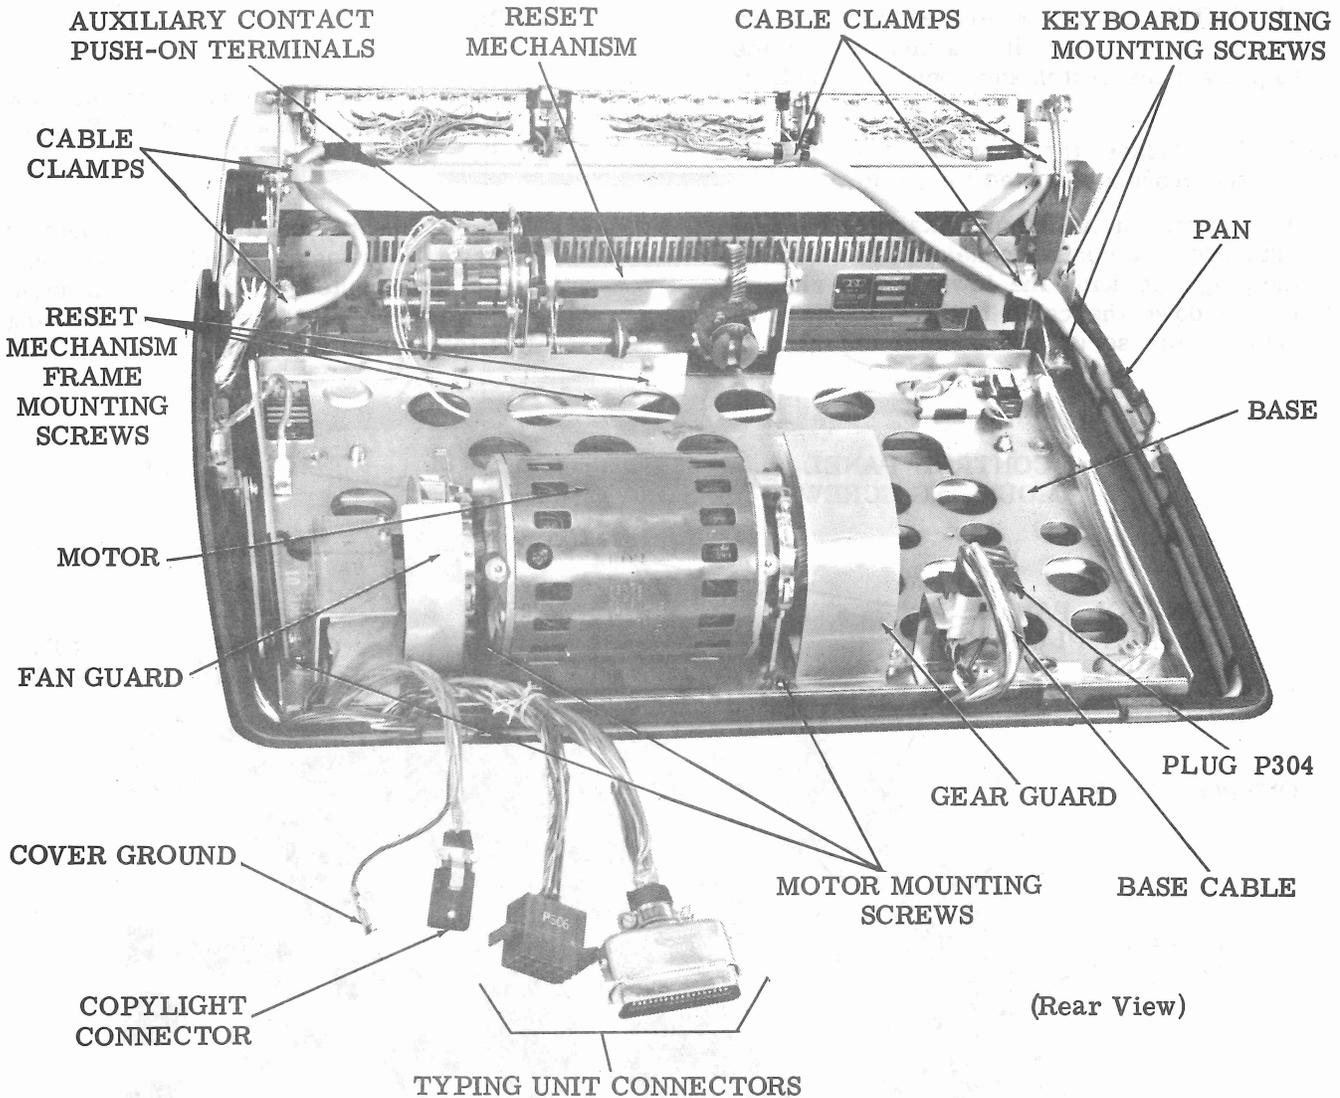

Figure 7 - Keyboard, Control Panel, Reset Mechanism, and Motor Unit
2.07 To remove the motor unit from the base, proceed as follows (Figure 7).
2.09 To remove the intermediate gear assembly from the base, proceed as follows (Figures 7 and 8).